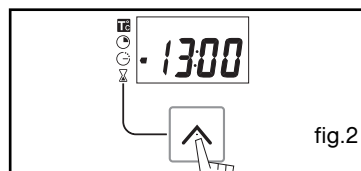

fig.2
Example: end of cooking at 13:00 (fig.2).
- Adjust the chosen time by pressing the touch controls + or - (fig.2).